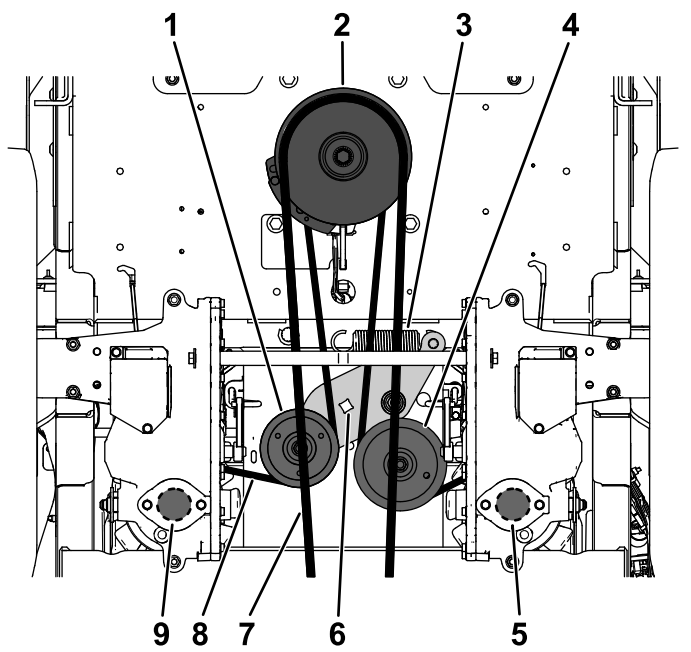

Figure 69
5. Use a 1/2-inch ratchet or breaker bar in one of the square holes in the idler arm to remove tension on the idler spring (Figure 69).
6. Remove the existing belt from the idler pulley, 2 hydraulic-pump-drive pulleys, and engine pulley (Figure 69).
7. Install the new belt around the idler pulley, engine pulley, and 2 hydraulic-pump pulleys (Figure 69).